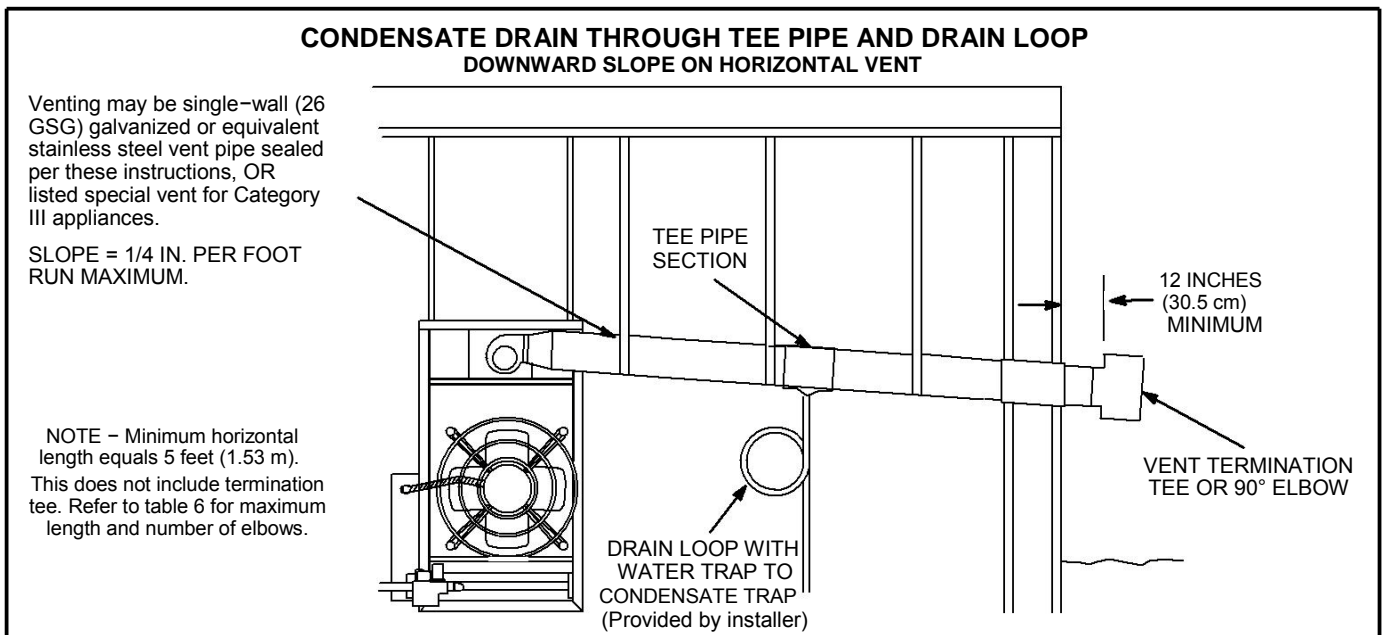
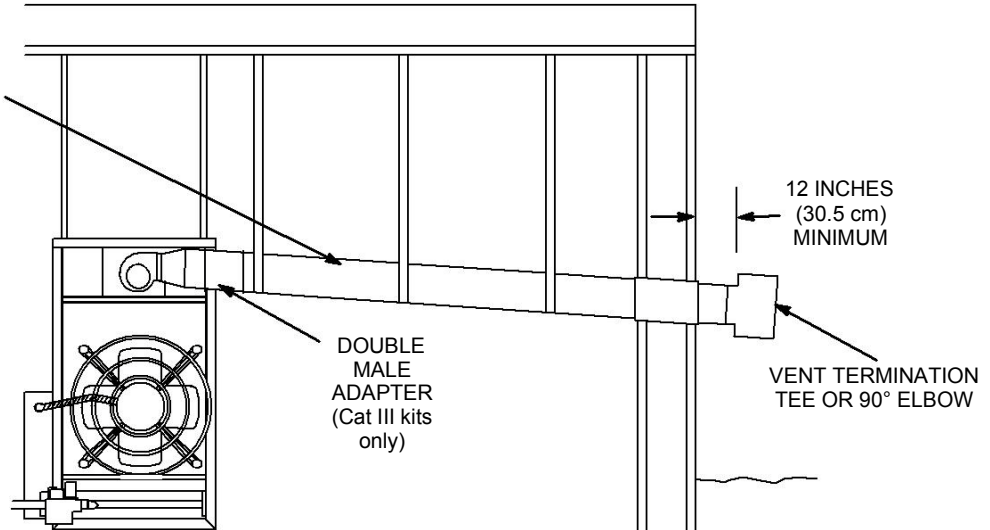

FIGURE 4
FIGURE 5
- 12 – Select a wall termination point that will maintain 1/4" rise per foot slope of horizontal run of vent pipe. In areas where authorities having jurisdiction permit, a downward slope of maximum 1/4" per foot is also acceptable. Condensate drainage can be collected in a tee pipe section (figure 4) with drain loop similar to one used for upward slope vent, or allowed to drip through the vent termination, if permitted by authorities (figure 5).